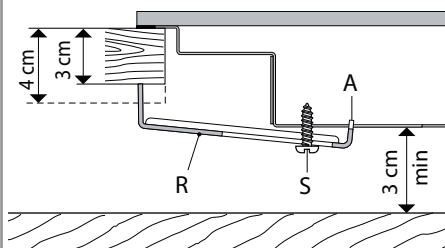

Fig. 19a
Each cooktop is provided with an installation kit including brackets and screws for fastening the cooktop to benches from 30 to 40mm thick. The kit includes two "F" type brackets (for the front of the cooktop), two "R" type brackets (for the rear of the cooktop) and four self-threading screws "S" (figs. 19a and 19b).
- Put the brackets "F" and "R" into place; tooth "A" of the brackets should go into the hole (Figs. 19a and 19b).